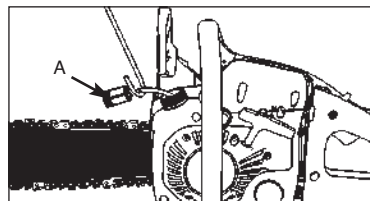

Fig. 16
4. Lift filter (A) out of tank (Fig. 16).